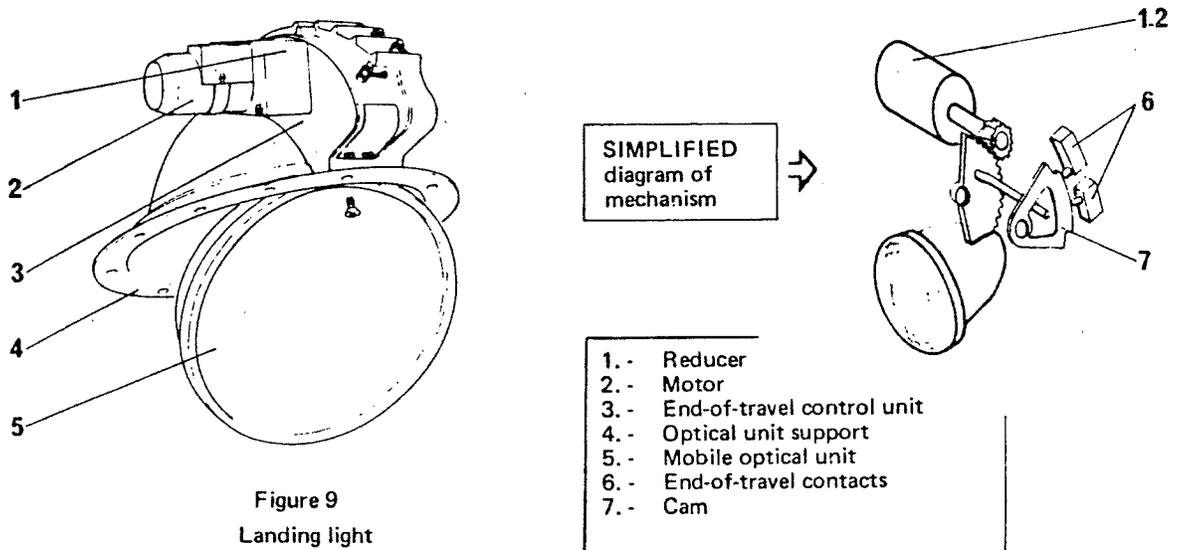

Figure 9
(3) DESCRIPTION OF LANDING LIGHT (Figure 9)